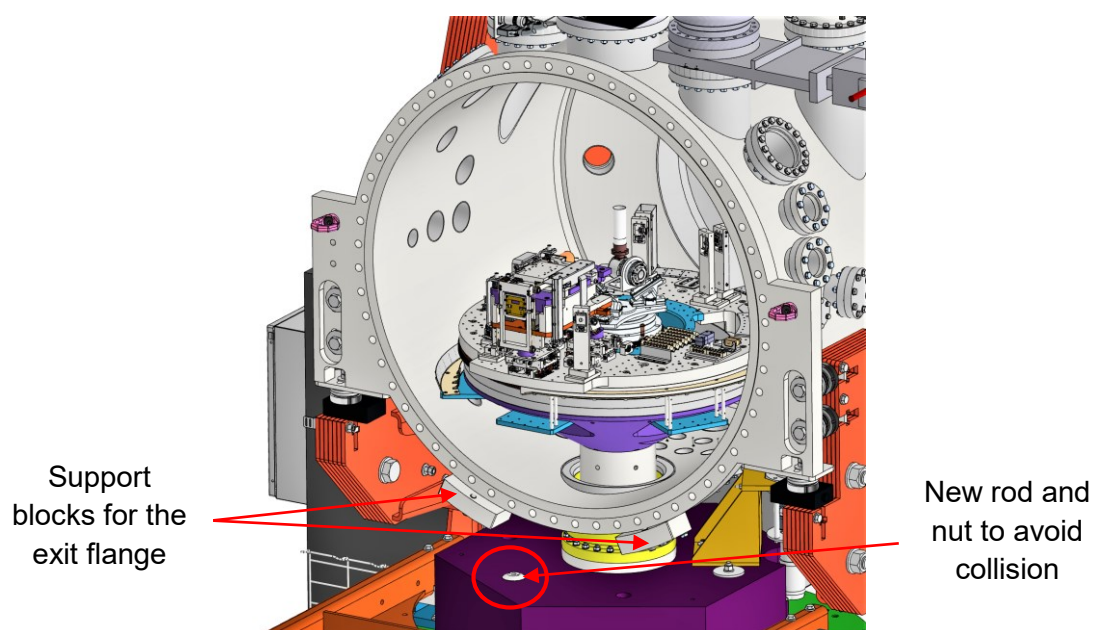
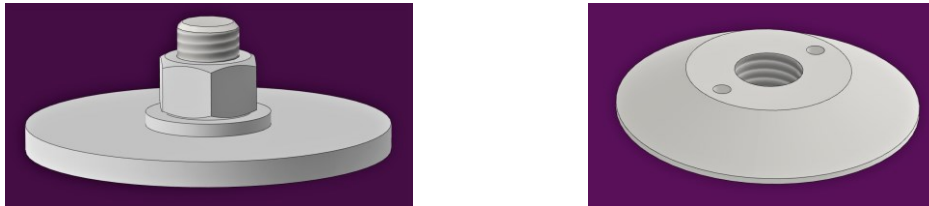

Figure 19: Internal mechanics of the sample chamber
Figure 20: Initial washer and nut (left) must be replaced by special nut (right)
- remove the two support blocks of the exit flange, see Figure 19.
4. In the current state of the system, the upper granite of the sample chamber is fixed to the lower granite in three different points by assemblies consisting of: a threaded rod (M12, 350 mm long), one large washer, one small washer and a nut as can be seen in the left hand side of Figure 20. To avoid collision, one of these assemblies - indicated in Figure 19 - must be replaced by a new assembly consisting of: a shorter threaded rod (M12, 325 mm long) and another nut (part number 0001-10263), see the right hand side of Figure 20. The required components were delivered together with the TRF.